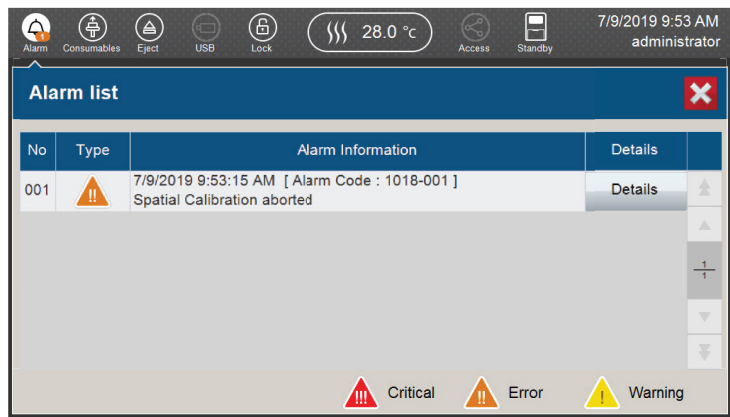

Figure 178. 'Alarm List' screen.
The most recent instrument alarms (up to 200) are logged in the 'Alarm List' screen (Figure 178) of the Spectrum Compact Control Software.
1. Select **Alarm**, located in the header of the 'Main Menu' screen (Figure 9) of the Spectrum Compact Control Software to access the 'Alarm List' screen (Figure 178).
2. When there is a new alarm, an amber indicator appears on the **Alarm** icon with a white number indicating the number of new alarms. When selecting **Alarm**, the 'Alarm List' screen opens (Figure 178). Once you have reviewed the new alarm(s), the indicator on the **Alarm** icon goes away.